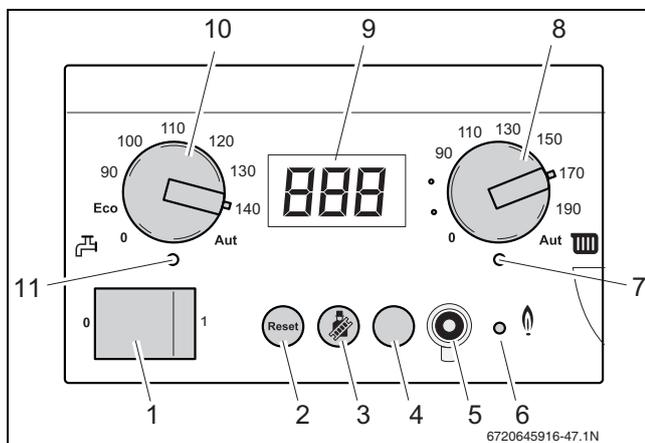

Fig. 70 BC10 basic controller
- ▶ Press and hold the  button (→ fig. 70, [3]) (approx. 2 seconds), until the dot in the right-hand bottom corner of the display (→ fig. 70, [9]) appears (→ table 12, page 29).
- ▶ After the “LED Burner operation” (→ fig. 70, [6]) has lit wait for 1 minute until the boiler is burning at full load.
- ▶ Switch OFF the heating system by pressing the main switch of the BC10 basic controller (→ fig. 70, [1]).
- ▶ Remove the flue gas analyzer and fit the cover back onto the flue gas measuring point (→ fig. 70, [1]).
- ▶ Switch ON the heating system by pressing the main switch of the BC10 basic controller (→ fig. 70, [1]).
- ▶ Switch OFF the appliance by pressing the main switch of the BC10 basic controller (→ fig. 70, [1]).
- ▶ Switch ON the appliance by pressing the main switch of the BC10 basic controller (→ fig. 70, [1]).
- ▶ After the LED Burner "operation" (→ fig. 70, [6]) has lit wait for 1 minute until the boiler is burning at part load.
- ▶ Press and hold the "Chimney sweep" button (→ fig. 70, [3]) (approx. 2 seconds), until the dot in the right-hand bottom corner of the display (→ fig. 70, [9]) appears (→ table 12, page 29).